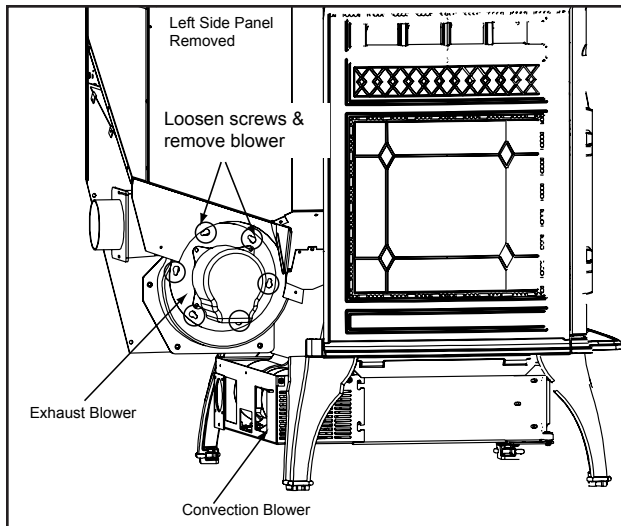

Figure 30.1
- f. There is a removable plate on the exhaust blower. Loosen the 6 screws in the keyhole shaped holes and rotate the plate. **Figure 30.1**